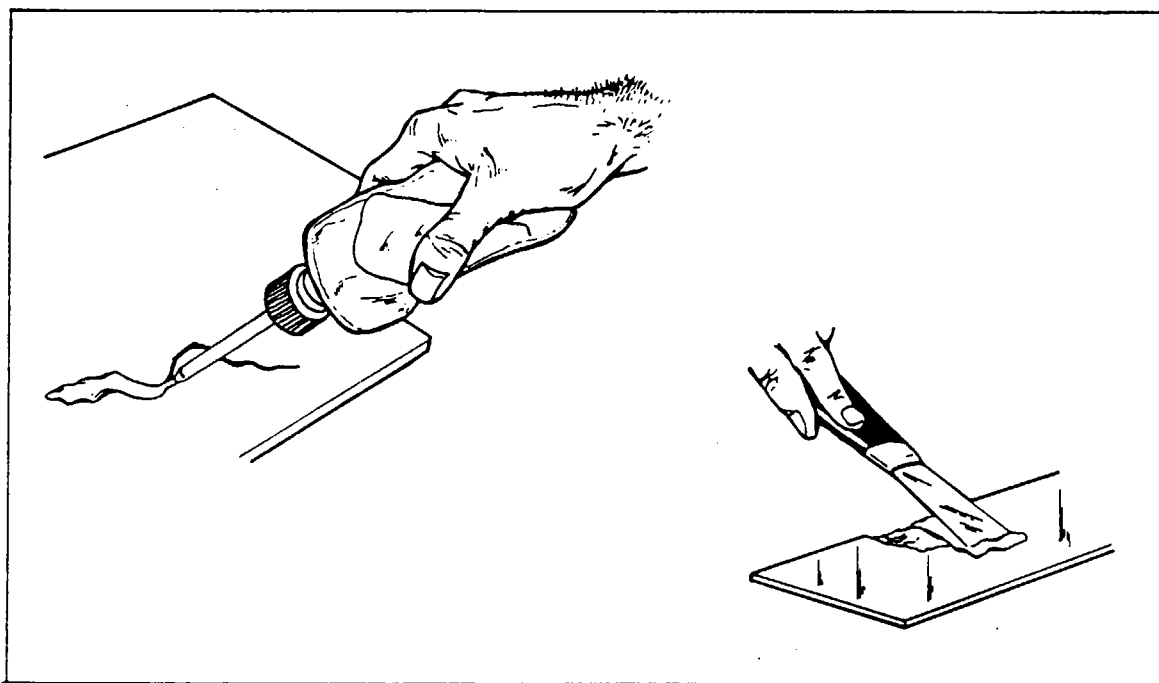

Figure 4-4a. Deep Scratches, Shallow Nicks and Small Holes
c. Deep Scratches, Shallow Nicks and Small Holes: (Less than 1 inch in diameter.) (Refer to Figure 4-4a.)